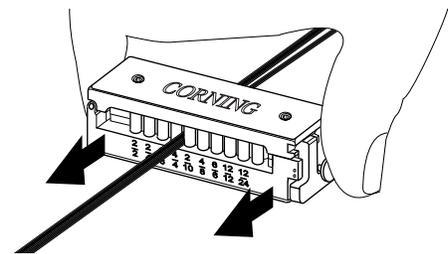

Figure 19
- Repeat these steps until the desired length of central tube is removed, leaving at least 2.5 cm (1 in.) of exposed central tube beyond the end of the sheath (Figure 19). *The length of exposed buffer tube may vary depending on the hardware being used.*
6.3 Use a lint free tissue or cloth to wipe the filling compound from each ribbon or bundle of fibers (Figure 19). If cleaner fibers are desired, filling compound remover may be used.